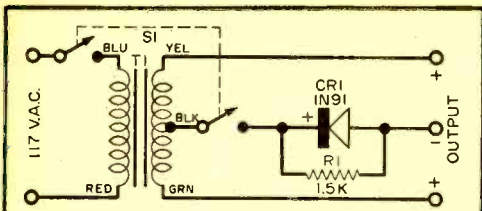
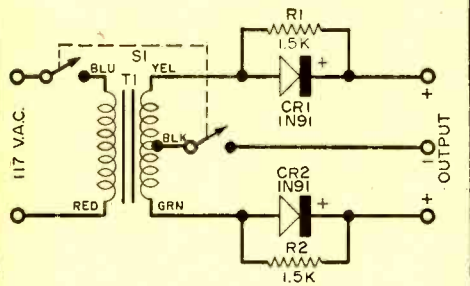

Fig. 1. Circuit for rejuvenating one dry cell.
Fig. 2. Circuit for rejuvenating two dry cells of the same or different size and type simultaneously. It will also accommodate single cells.
Circuit Details. In the circuit of Fig. 1, a dry cell to be rejuvenated may be connected from the center output terminal to either side output terminal, *but not to both simultaneously*. In other words, this circuit should be used to rejuvenate only a single dry cell, and two connections giving identical results are available for the process.
If you aren't using many dry cells at present, and rejuvenating one cell at a time will fill your needs, build the circuit of Fig. 1. Then, if you require additional facilities later on, it's a simple matter to modify the setup to accommodate the extra rectifier and resistor required in the circuit of Fig. 2.
Construction. The rejuvenator shown in the photos is the assembled circuit of Fig. 1. Appearance of the setup for Fig. 2 would be identical except for the additional rectifier and resistor. Either unit may be assembled in the handy little plastic box in which the transformer, *T1*, is purchased.
*CR2 and R2 are required only for the circuit of Fig. 2
This model of the rejuvenator is the circuit of Fig. 1 assembled in the plastic box which originally contained the transistor audio transformer.
Don't try to rejuvenate two cells simultaneously with the circuit of Fig. 1. It won't work. The two positive terminals are provided on this unit merely for convenience. If you want to charge two cells at once, use the circuit of Fig. 2.